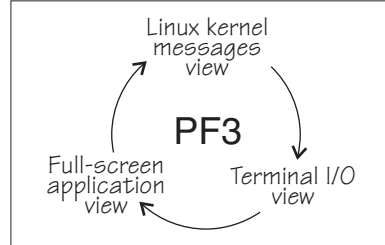

Figure 14. Switching views of the 3270 terminal device driver
Use function key 3 (PF3) to switch between the views (see Figure 14).